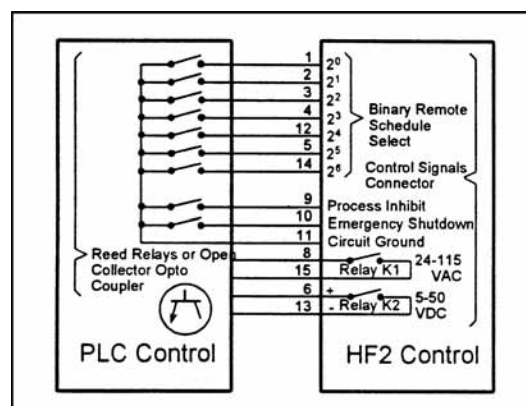

Figure 4-8. Control Signals Connection
- 1 A 15-pin, sub-miniature "D" Control Signals Connector includes inputs for: (a) Remotely selecting weld schedules 1 through 127; (b) Inhibiting the Control from beginning a new welding process; and (c) Invoking an Emergency Stop Condition which abruptly terminates the welding process. The Control Signals inputs and outputs are designed to be used with a Programmable Logic Control (PLC) (see Figure 4-8) or a Host Computer in automated environments.
All weld schedules must be entered and saved using the Control Front Panel keys. After saving the desired weld schedules, each schedule can be recalled prior to initiating the welding process cycle. Using the PLC (Figure 4-8), remote weld schedule selection (chain schedule feature turned off) can be implemented by closing the binary Remote Schedule Select lines according to the following table:
Control Signals - Emergency Stop Input (Figure 4-8)
Control Signals - Process Inhibit Input (Figure 4-8)
Control Signals - Output Relays (Figure 4-8)